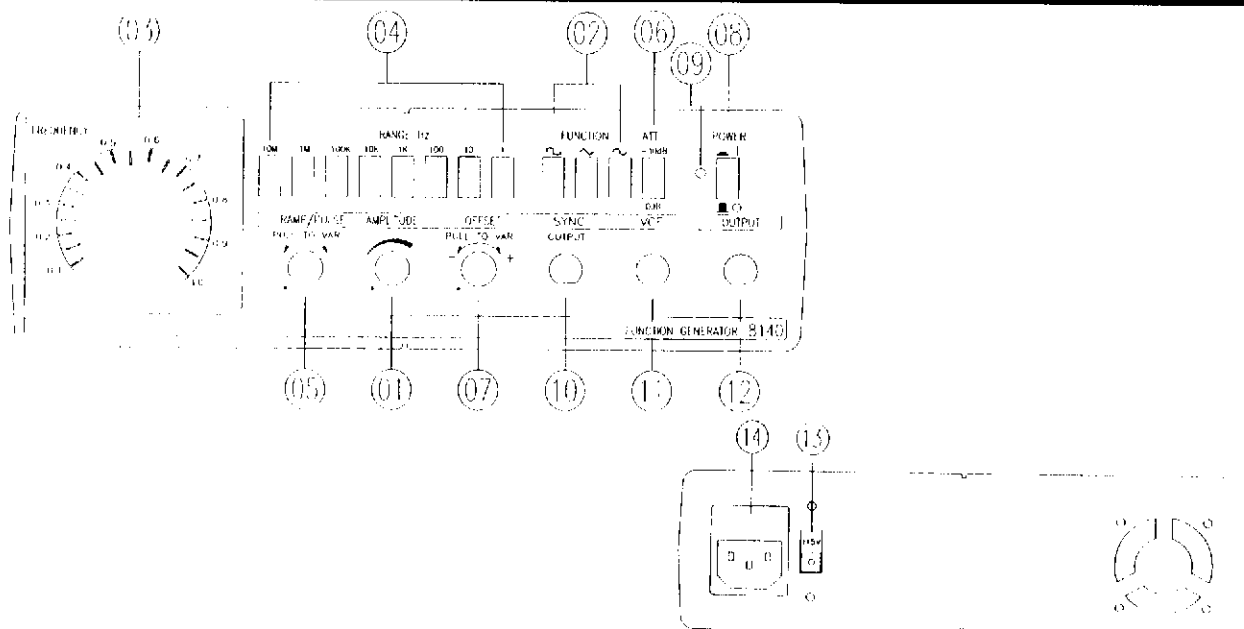

Figure 1 Front and Rear Panels
The following is an explanation of the function of each of the front and rear panel controls and connectors. You should refer to Figure 1 for the location of each control / connector.
The fuse is located inside the **AC SOCKET WITH FUSE HOLDER (14)** (refer to Figure 1). You need to change the fuse when: